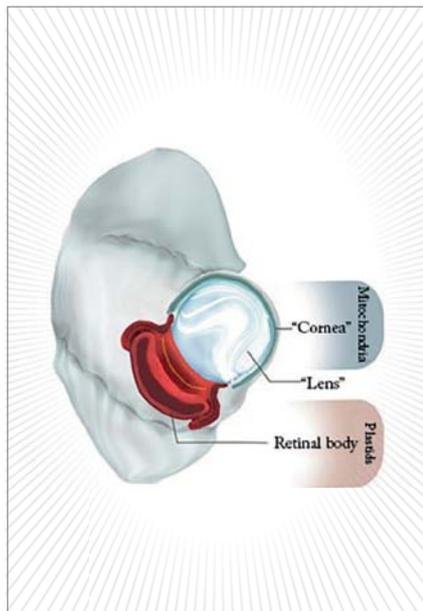
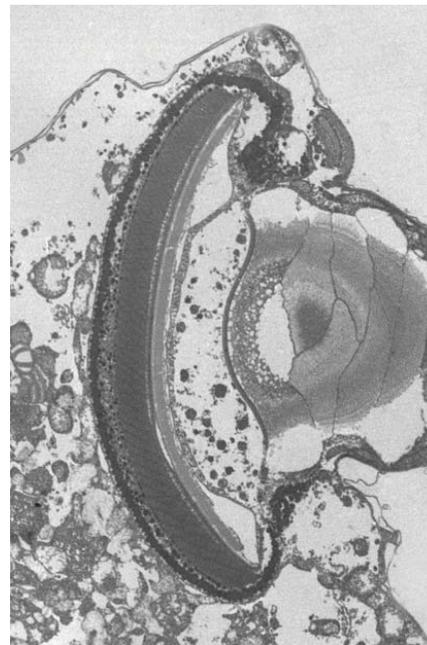

Figure 1. The structure of the ocelloid in warnowiid dinoflagellates, indicating the subcellular organelles that form each structure (1).
Figure 2. A transmission electron micrograph of the warnowiid ocelloid (1).
Called an “ocelloid,” the eye-like structure is a prime example of exaptation, the co-option of a structure intended for one purpose to fulfill another. In the case of the warnowiid ocelloid (Figure 1), a layer of mitochondria forms a makeshift cornea over the vesicular lens, while the “retina” is composed of a network of double-membraned organelles called plastids (2). Despite its unique composition, the ocelloid looks so much like a true, multicellular eye that researchers initially mistook it for the eye of a more complex organism eaten by the plankton. In a press release from the University of British Columbia, where the origins of the ocelloid were examined (Figure 2), lead author Greg Gavelis said, “It's an amazingly complex structure for a single-celled organism to have evolved. It contains a collection of subcellular organelles that look very much like the lens, cornea, iris and retina of multicellular eyes found in humans and other larger animals” (3).